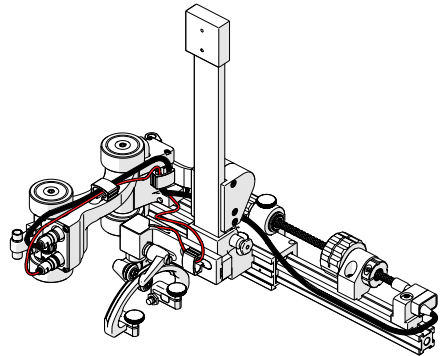

Fig. 95 - Assemble configuration
2. Assemble the appropriate configuration to the low profile link (Fig. 95). Install the wedge and probe to be used (see *Probe Holder Setup* on page 23).